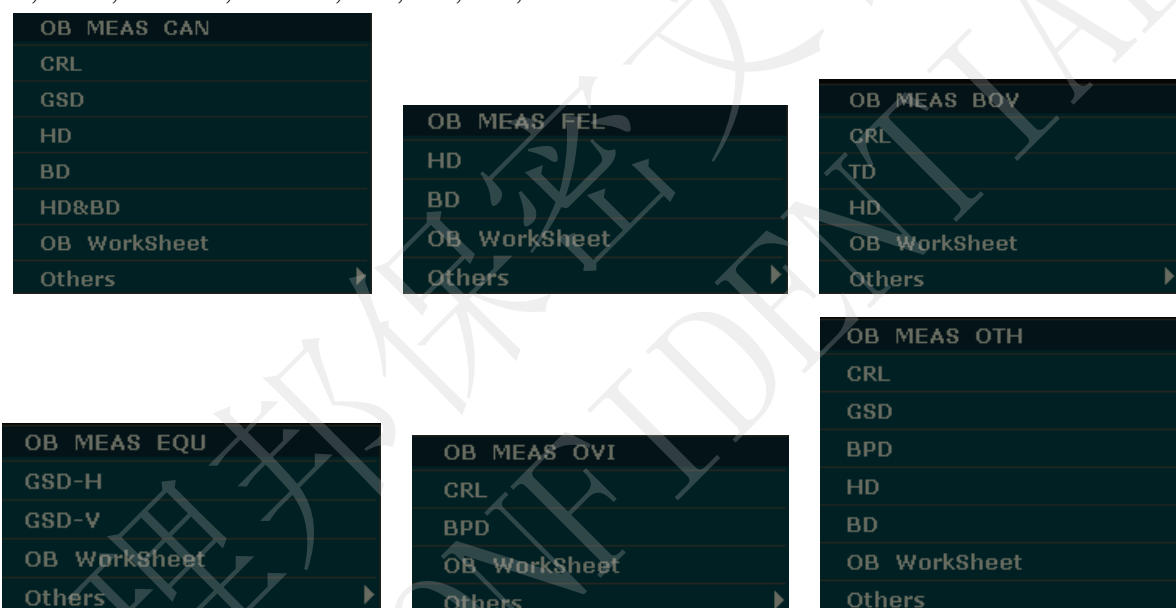

Figure 8-1 Obstetrics Measurement and Calculation Menu
- 3 Press **Measure** to activate the application measurement function. The system displays the measurement menu as shown in Figure 8-1.